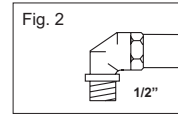

Fig. 2
- by flexible tube in stainless steel with continuing wall, with mechanical connection in accordance with rules. The tube must be directly connected to the manifold elbow (see Fig.2).